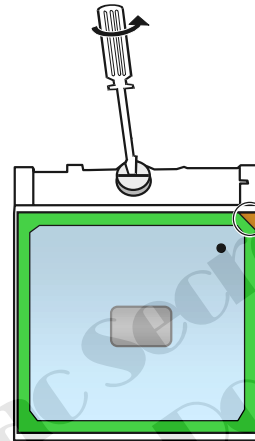

Figure 2-6 Remove the CPU
4. To remove the existing CPU, loosen the screw by a flat screwdriver, upraise the CPU socket to unlock the CPU. (Figure 2-6)